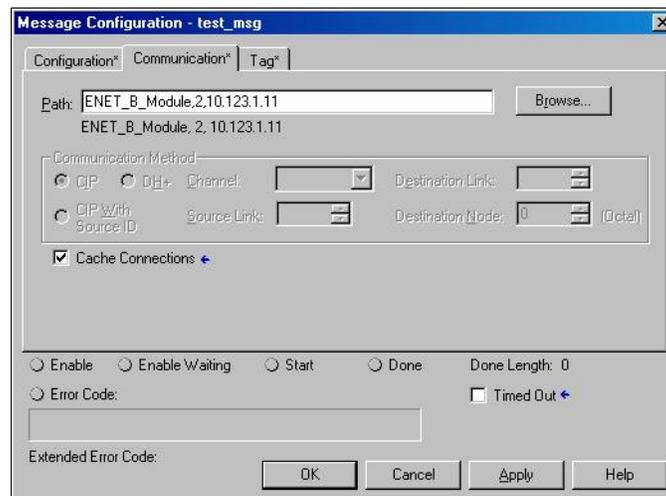

Figure 2-7: Message Configuration (Communication Tab) Dialog
6. In the Communication tab, set the path to the In-Sight unit. The format is "**Source IP, Medium** (Ethernet = 2), **Destination IP**". For example (refer to Figure 2-7), **ENET_B_MODULE** is the module in the rack (selected by using the **Browse** button). The number **2** indicates "Use Ethernet Communication"; **10.123.1.11** is the IP address of the In-Sight unit.